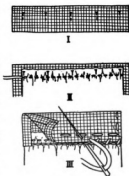

FIGURE 92
*Garment Bands* (Figure 92). — Bands are usually cut lengthwise of the material. Cut the band about  $2\frac{1}{2}$  inches longer than the desired length to allow for placket lapping, and twice the width plus seam allowances (I). Turn back the end  $\frac{1}{2}$  inch to the wrong side and press with a warm iron. Mark this band into four equal parts. Bands may be placed to the right or